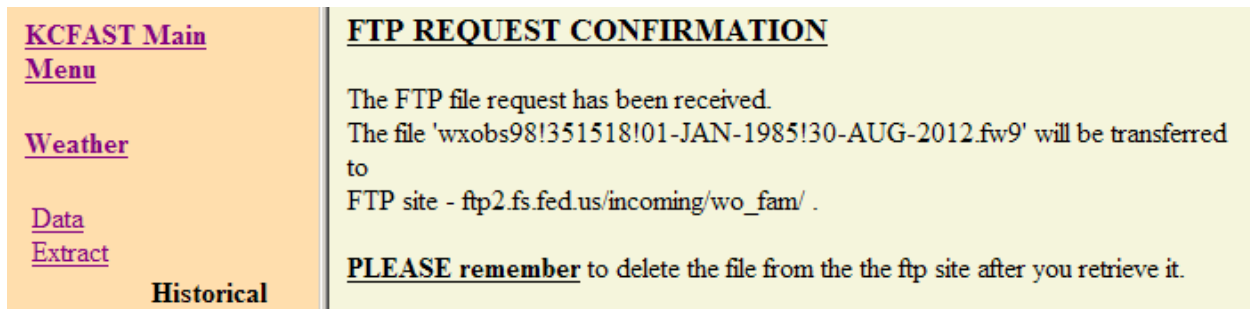

Figure 3-5—File name and ftp site window.
- vi) Click **Submit** and a new window will open noting the file name and the ftp address where the data will be placed (fig. 3-5). You may want to write down the file name and the ftp so you can reference it later. You will retrieve all the data at once in *Step 2*.
- vi) Click **Submit** and a new window will open noting the file name and the ftp address where the data will be placed (see fig. 3-5 for an example). Again, take note of the file name and the ftp. You will retrieve all the data at once in *Step 2*.
- v) Click **Submit** and a new window will open noting the file name and the ftp address where the data will be placed (see fig. 3-5 for an example). Again, take note of the file name and the ftp. You will retrieve all the data at once in **Step 2**.